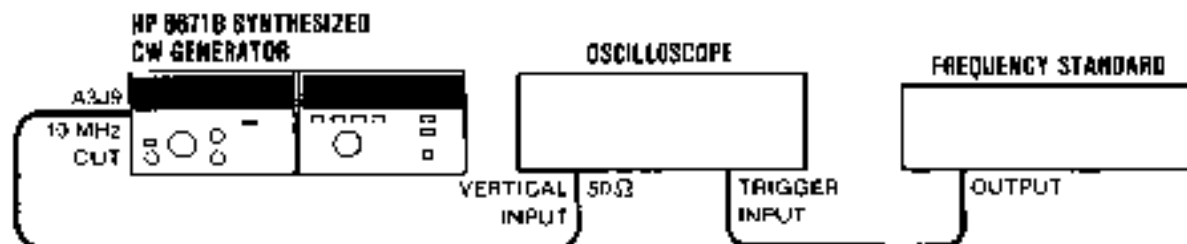

Figure 5-1. 10 MHz Reference Oscillator Adjustment Test Setup
2. Connect the equipment as shown in Figure 5-1. Set the vertical input of the oscilloscope for **50Ω** input impedance.